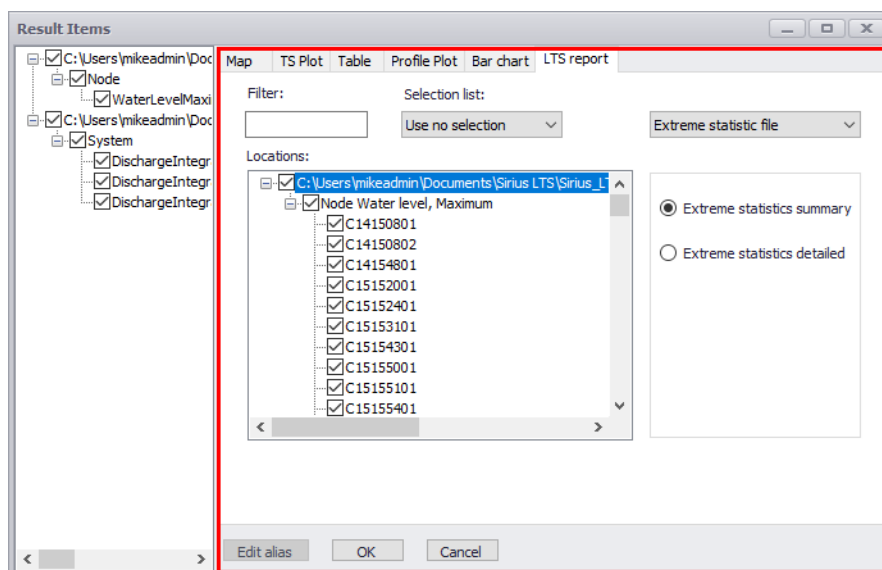

Figure 20.64 The LTS Report tab on the Result Items dialog
LTS statistics reports can be generated through the LTS Report tab on the Result Items dialog (Figure 20.64). The following types of LTS Reports could be generated:
- Access the ‘LTS Report’ tab on the ‘Result Items’ dialog (Figure 20.64).